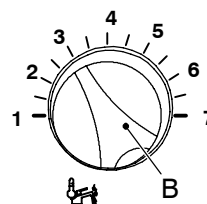

Fig. 9.8
At this step it is possible to visualize the current setting by keeping the reset button C pressed for more than 5 seconds. The lamps will flash a number of times corresponding to the setting (Tab. 9.1 and Fig. 9.8).
- 4 To change the setting turn the knob B on a position corresponding to the desired maximum useful output (Tab. 9.1 and Fig. 9.8).